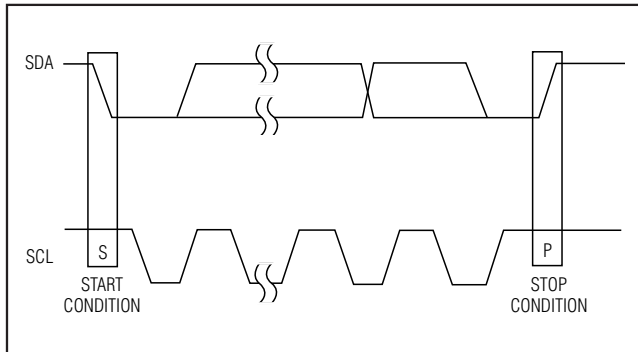

Figure 6. Start and Stop Conditions
Each transmission consists of a START condition sent by a master, followed by the MAX6618 7-bit slave address, plus an R/W bit, one or more data bytes, and finally a STOP condition (Figure 6). To write to a MAX6618 register, a write transmission consists of a START condition, followed by the MAX6618 7-bit slave address plus  $R/\overline{W} = 0$ , a register address byte, one data byte, and finally a STOP condition. To read from a MAX6618 register, a combined write and read transmissions are required. The first write transmission consists of a START condition, followed by the MAX6618 7-bit slave address plus  $R/\overline{W} = 0$ , a register address byte, and finally a STOP condition that sets the register to be read. The second read transmission consists of a START condition, followed by the MAX6618 7-bit slave address plus  $R/\overline{W} = 1$ , one or more data bytes, and
Both SCL and SDA remain high when the interface is not busy. A master signals the beginning of a transmission with a START (S) condition by transitioning SDA from high to low while SCL is high. When the master has finished communicating with the slave, it issues a STOP (P) condition by transitioning SDA from low to high while SCL is high. The bus is then free for another transmission (Figure 6).